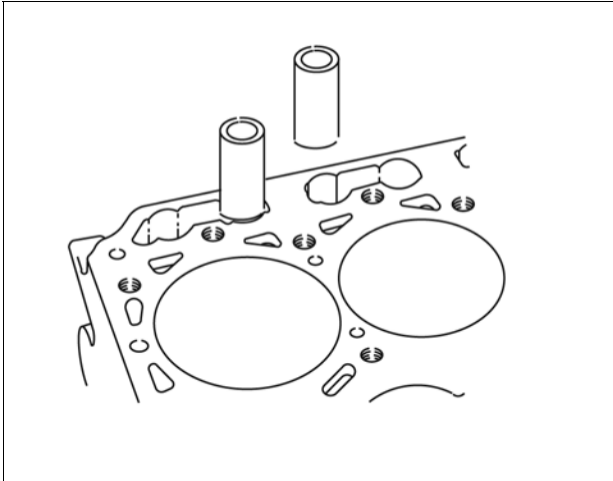

Figure 3
- 6. Remove valve lifters (Figure 3).